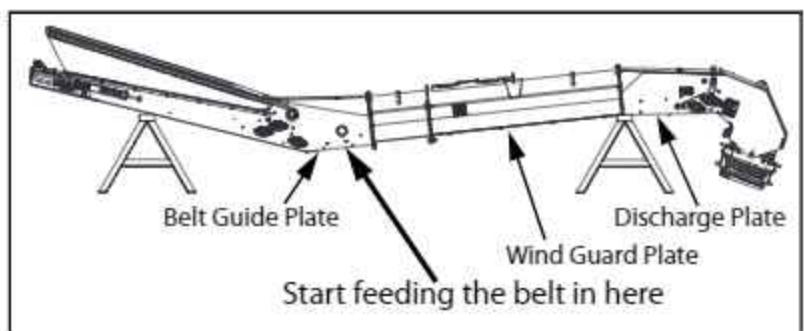

FIG. 3-73. Swing Tube on Stands
2. Place stands under the conveyor, as shown in Fig. 3-73. Temporarily, remove the under side plates shown. This allows for easier access when installing the belt.
4. Fig 3-73 shows where to start feeding the belt into the conveyor. Make sure the leading end is inserted first, with the slider backing on top.